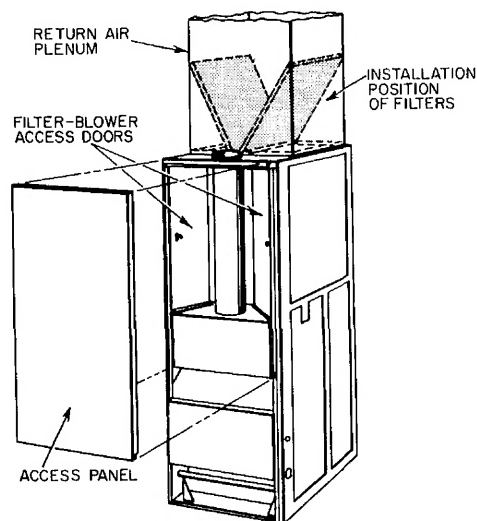

Figure 9—Position of Filters
The two factory-supplied filters are shipped in the blower compartment. After the return air duct has been connected to the furnace, install the filters in a V-formation inside the return air plenum. See Figure 9.
Each furnace accommodates two filters which are installed above the furnace in the return air plenum. See Figure 9.
3. Remove filter/blower access doors located beside flue pipe. See Figure 9.